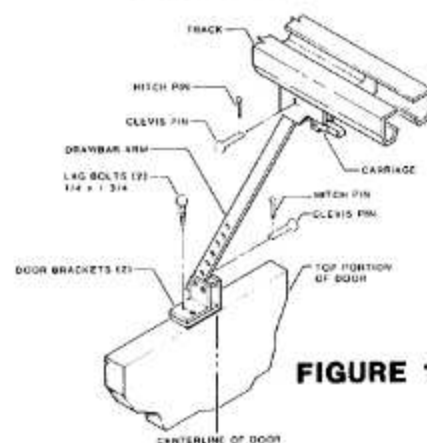

FIGURE 10
- 11** Place drawbar brackets on top center of door. Secure with two lag screws. Attach drawbar to drawbar brackets and carriage with clevis and hitch pins. See Figure 10.
1. When "Emergency" or "Manual" operation is required, as in the case of a power failure, the door can be operated manually by pulling the "Quick Release Lever" (See Figure 10 for one piece doors and Figure 12 for sectional doors). Refer to "EMERGENCY RELEASE DECAL".